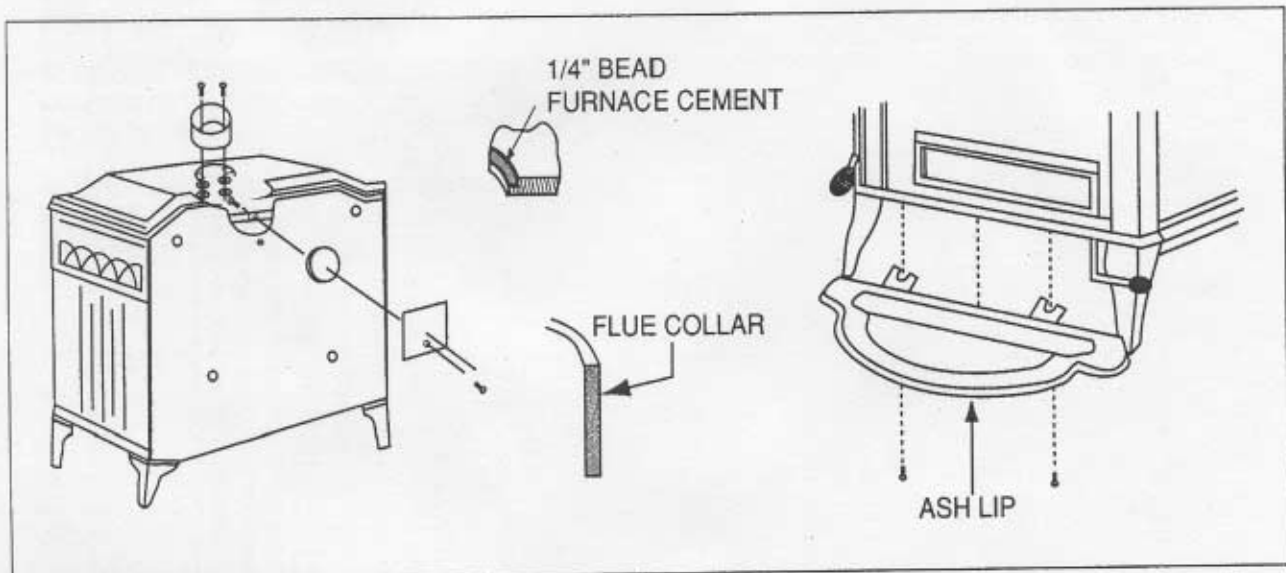

Figure 19
7. The flue collar is located in the box that was inside the Aurora. For a top flue exit, attach the collar to the top of the heater with the bolts and nuts provided. Furnace cement may be used to seal under the collar (See Figure 19). Should a rear flue exit be necessary, you will need to remove the back sheet metal cover plate from the back shield. The cast cover plate is attached to the back of this unit. Remove the cover plate by removing the bolt and fixing bar. See Figure 19. Clean off the old cement from the surface. The flue collar is then fastened to the back of the unit with the bolts and nuts provided as shown in Figure 19. Furnace cement should be used to seal under the collar. Install the cast iron cover plate on the top of the heater in the unused flue opening by placing a bead of furnace cement around the edge and placing the cover in position so it sits firmly against the cast iron. Attach the fixing bar to the cover plate with the bolt and washers provided. See Figure 19 for top and rear cover plate installation.